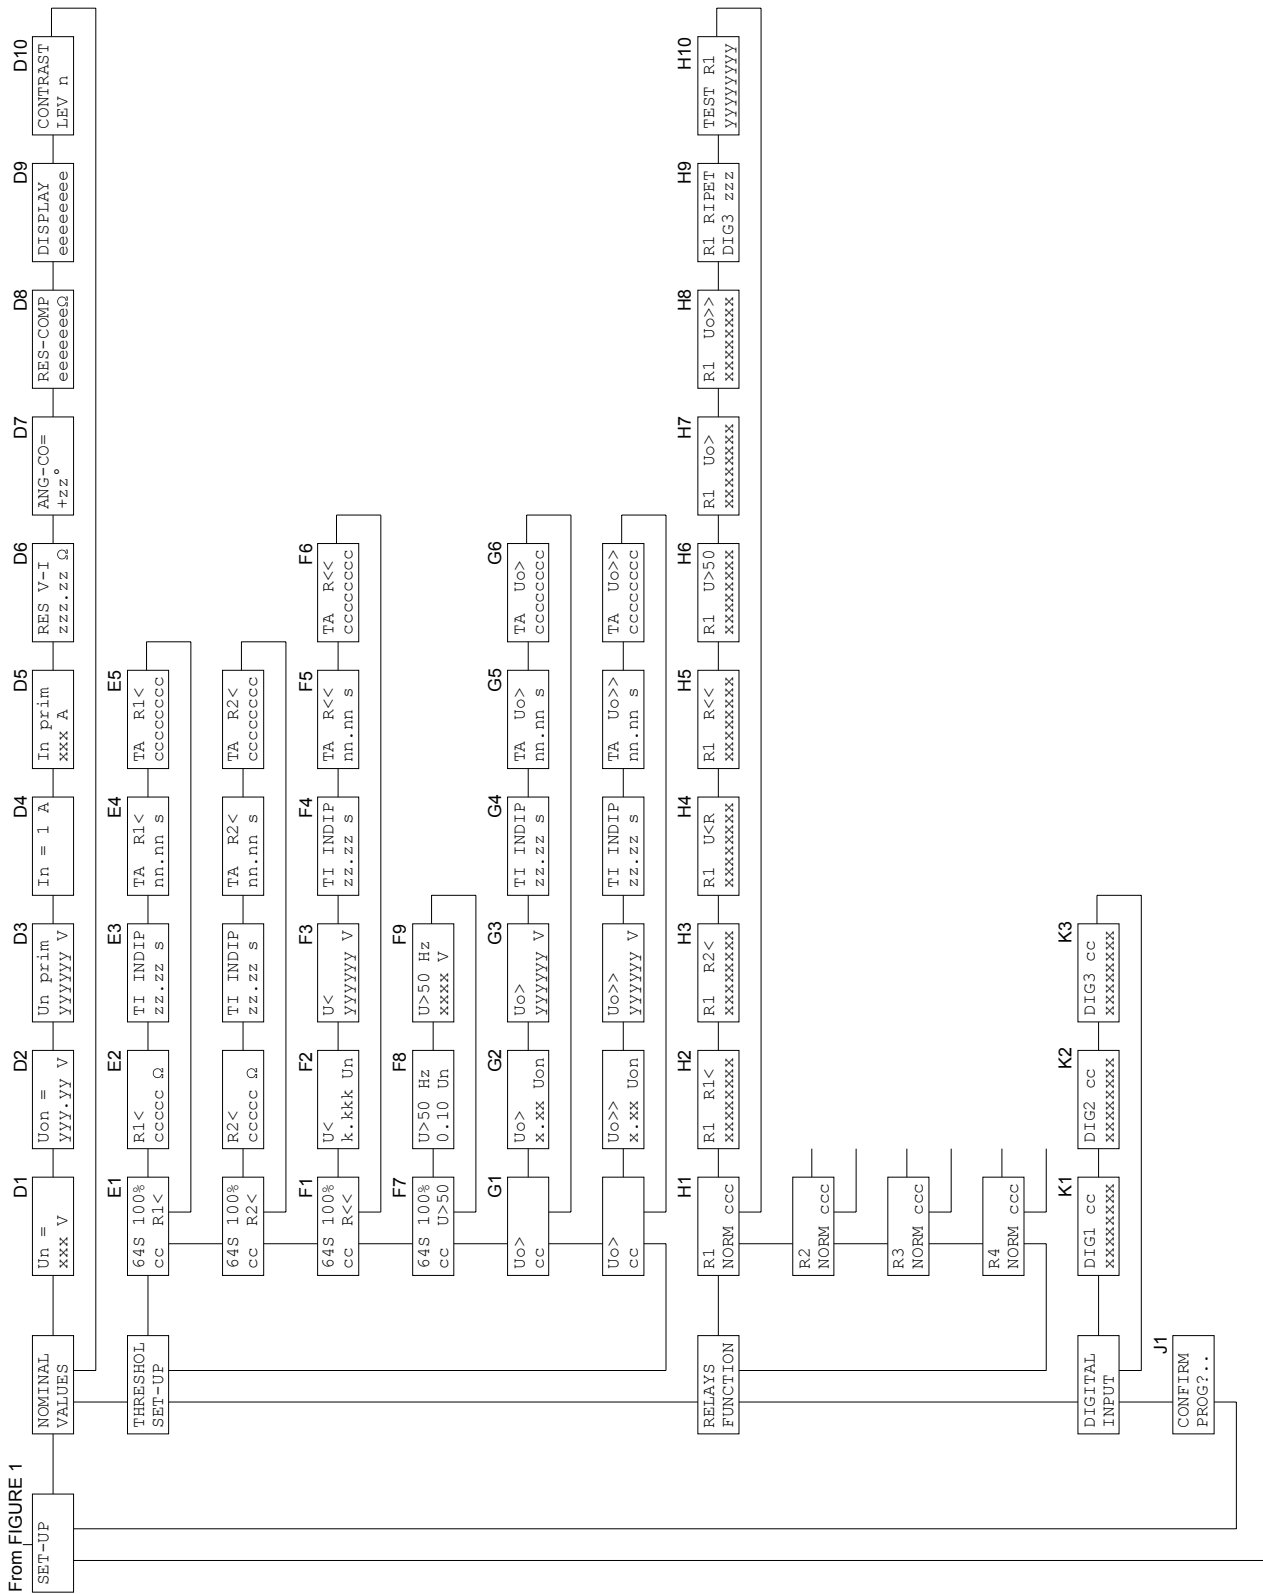

Figure 2
When the output relays test is selected (Figure 2, ref. H10) it is possible to command an output relay (one at the time) to trip from the current status allowing functional tests on electrical plants.
5.5 Nominal values set-up (figure2)**D1 - SECONDARY INJECTION NOMINAL VOLTAGE U_n (programmable)**